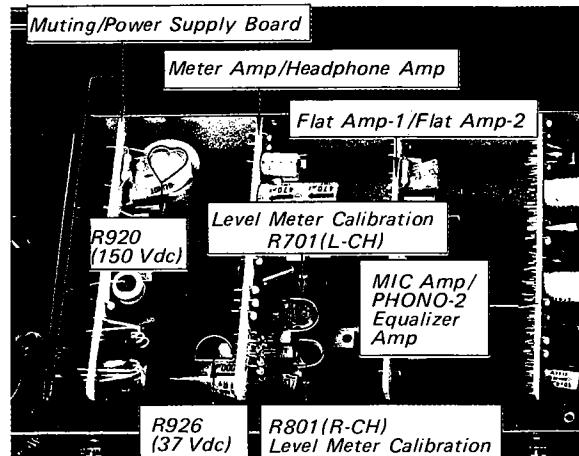

Fig. 3-3. Parts location
- Turn the semifixied resistor R701 (R801), see Fig. 3-3, mounted on the Meter Amplifier/Headphone Amplifier board to obtain a 0 reading on the level meter.